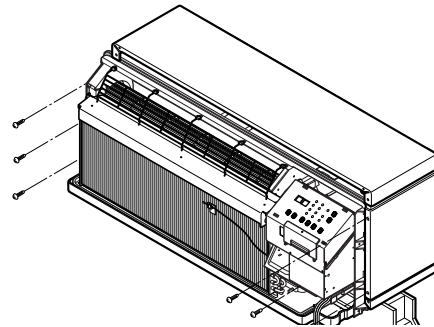

Figure 3
3. Slide the unit into the wall sleeve and secure with 6 screws through the unit flange holes. (See Figure 3)